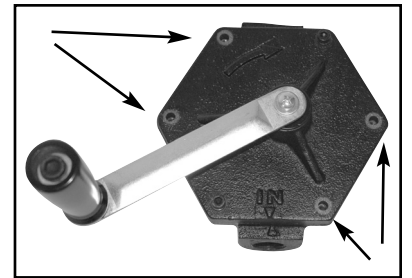

Fig. 2
2. Use the provided hex wrench and remove the 4 hex head cap screws, flat washers and lock washers as shown. (See Fig. 2) **DO NOT** remove the remaining two screws. Install the two Z brackets and ground wire terminal as shown. Reinstall the cap screws, flat washers, and lock washers as shown. Tighten securely to assure the pump is sealed.